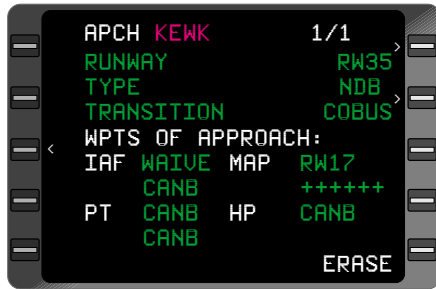

Figure 3-58
2. **ENTER** Key - DEPRESS to review **APPROACH** (Figure 3-58)